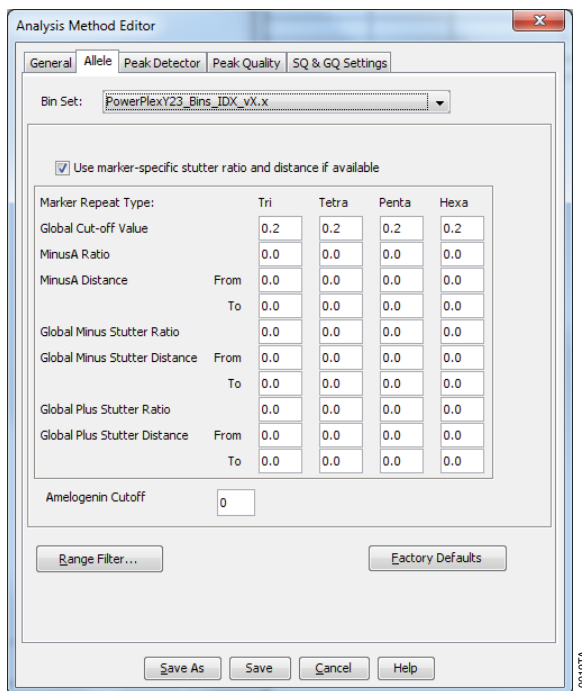

Figure 15. The GeneMapper® ID-X 'Allele' tab with settings for using a 20% peak filter.
6. Select the 'Allele' tab (Figure 15).
8. Ensure that the “Use marker-specific stutter ratio and distance if available” box is checked. Doing this will assign locus-specific stutter filters and distances from the imported stutter file. Ensure that the appropriate global filter is applied to this analysis method. For example, for a 20% filter enter “0.20” for the Global Cut-off Value for Tri, Tetra, Penta and Hexa repeats (Figure 15). You may need to optimize these settings. In-house validation should be performed.